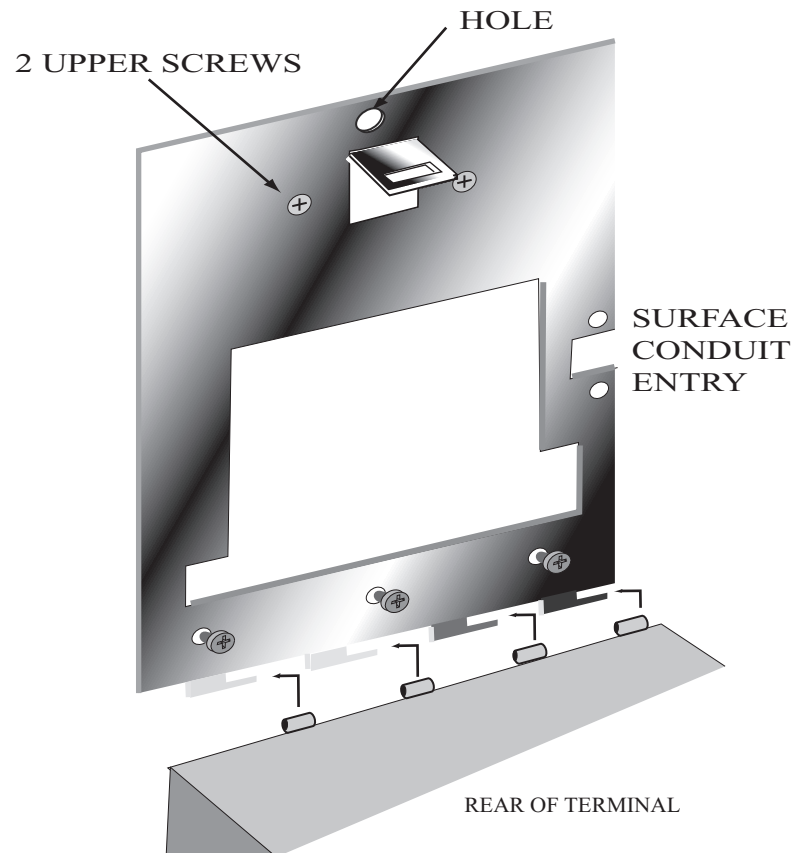

Figure 3-3: Attaching the HandPunch to the Wall Plate
2. Align the sleeves of the back plate with the pins of the wall plate and slide the HandPunch to the left as shown in "Figure 3-3".